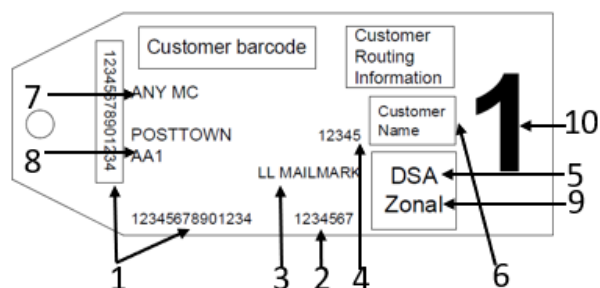

Figure 15: Bag label
- Figures 15 to 16 below are examples of what a Container label looks like, including the information to include, the specifications for field size, fonts and formatting. Please note all fields are aligned left, unless otherwise stated.
- The below table provides further detail of what information against each of the label indicators in the above Figures 15 and 16, you are required to include on the labels: